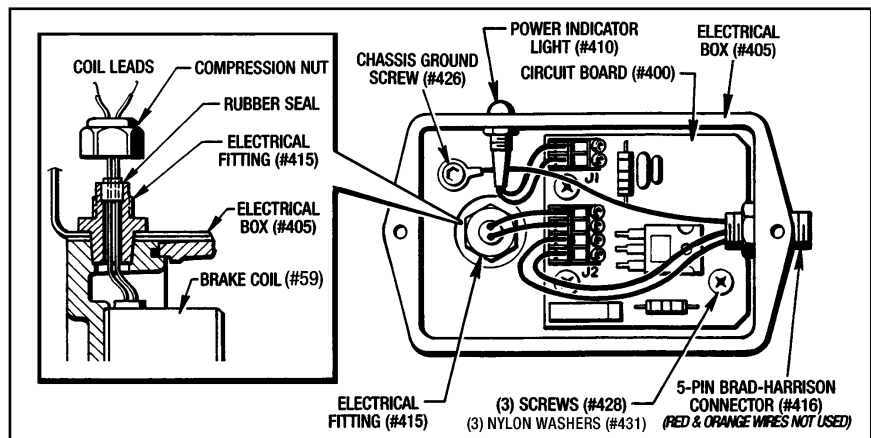

Figure 7.5 - Conduit Box with Cover Removed for Sizes MSB9 and MSB10
(See Figure 7.5)
6. Take the cover off of the Conduit Box (#405) and disconnect the coil leads from J1 terminal strip located on the Circuit Board (#400). Also remove the compression nut from the Electrical Fitting (#415) and pry the rubber seal out of the fitting and off of the coil leads. (See Figures 7.5 or 7.6)
7. Place the rubber seal on the coil leads and pull the wires through, taking up all the slack in the wires. Seat the rubber seal into the threaded part of the Electrical Fitting (#415). Tighten down the compression nut. (See Figure 7.5 or 7.6)
8. Attach the coil leads to Terminal Strip J1 on the Circuit Board (#400) and replace the Conduit Box cover. (See Figure 7.5 or 7.6).